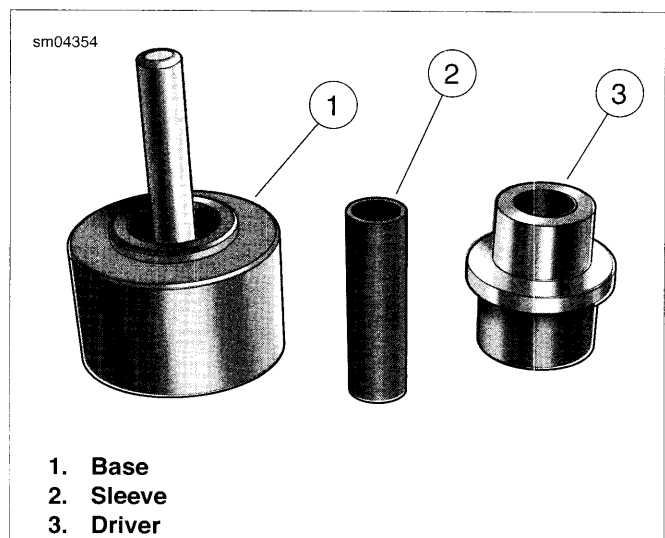

Figure D-2. Rear Wheel Compensator Sprocket Bearing Remover/Installer (Part No. HD-48921)
3. See Figure D-2. Obtain the REAR WHEEL COMPENSATOR SPROCKET BEARING REMOVER/INSTALLER (Part No. HD-48921).
1. See Figure D-2. Obtain the REAR WHEEL COMPENSATOR SPROCKET BEARING REMOVER/INSTALLER (Part No. HD-48921).